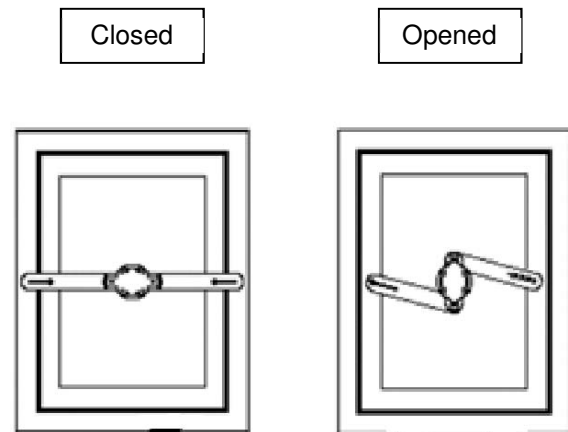

Figure 58
- ◆ Verify the functionality of the escape hatch's release mechanism prior to installation and before use. Please ensure that the hatch's arms are retracted when open and non-retracted when closed. (Figure 58)